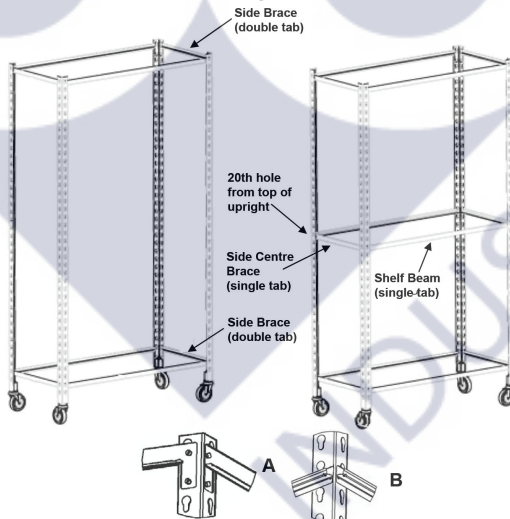
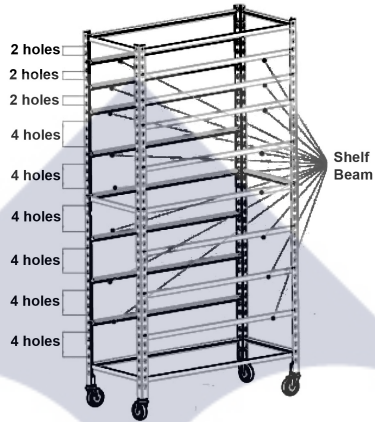

Fig.4
Fig.5
8. Insert the remaining cross beams in the frame using fig.4 and fig.5 to space them out correctly. Ensure the beams are the correct way around to hold the wire shelves (See fig.4, fig.5). As before use a soft faced mallet to tap the beams into place.